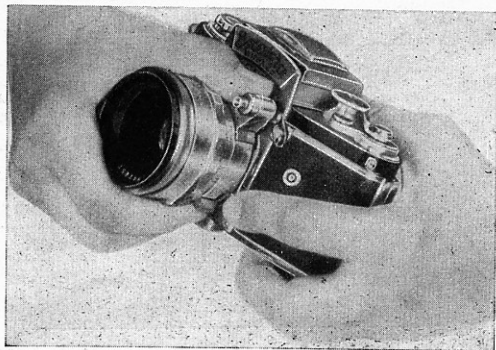

Fig. 13
The lens (25) of the EXAKTA Varex is exchangeable. The camera should always be kept with the lens installed or with the protective cover, which is inserted into the lens bayonet, to avoid penetration of dust. The front element of the lens is protected by a lens cover which, of course, must be taken off before exposing. To remove the lens, press the knob of the bayonet catch (27) towards the lens (Fig. 13). Turn the whole lens to the left (looking at camera front). Two red marks (21 and 26) are now opposite each other, one on the camera body, the other on the lens. Lift the lens out of the camera front. — When inserting the lens, the procedure is reversed: Begin with putting the lens (25) into the bayonet mount (red marks (21 and 26) are opposite each other), turn it to the right until the lens bayonet catch (27) snaps into position.